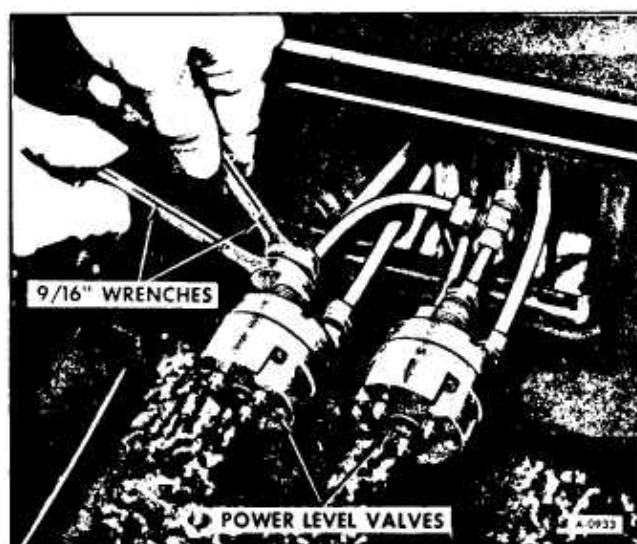

Figure 23—Removing Power Level Valve
5. Disconnect three fitting from the back of each valve as shown in Figure 23 and remove valves.